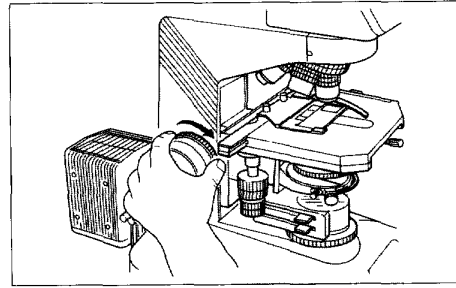

Fig. 5
- Turn the refocusing stopper clamp ring and clamp it at the position where the specimen is focused. It is clamped at the position where the black delta mark (\blacktriangle) on the side of the clamp ring reaches the top (Fig. 5).